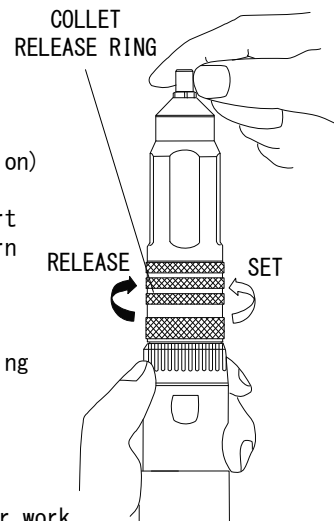

Fig.2
- 1) Hold the motor and turn the collet release ring to the "RELEASE" direction as shown Fig.2 until you hear a "Click" and it will not return. (Collet chuck is in the open position)